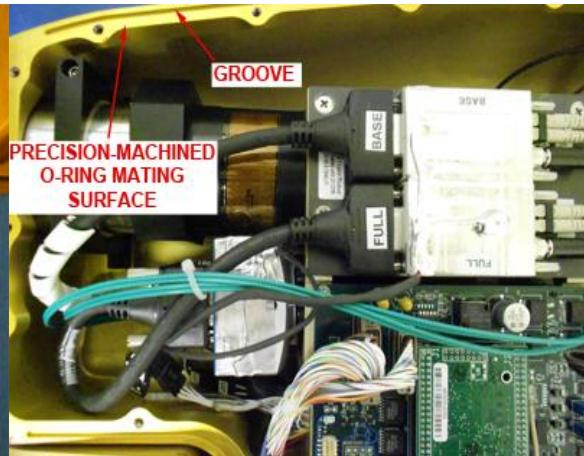

Figure 6.2.2.
3. **Figure 6.2.2** shows the important areas of the pylon body that must be aligned during installation of the pylon cover.